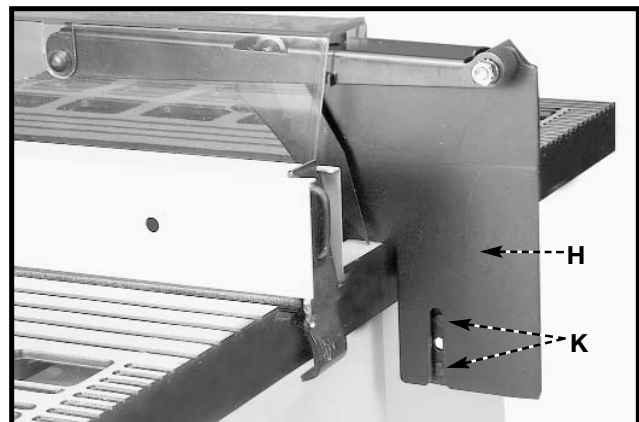

Fig. 13
5. Position the splitter (H) Fig. 13 against the splitter support bracket, making certain the two protrusions (K) on the splitter support bracket are inside the slot of splitter (H).